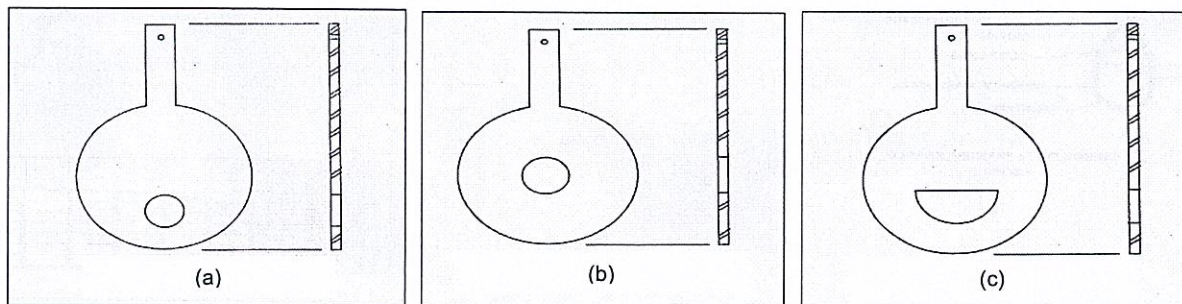

Figure 5
- (b) Identify all the orifice plates shown in Figures 5(a)-(c) and interpret the fluid conditions applicable to each plate.